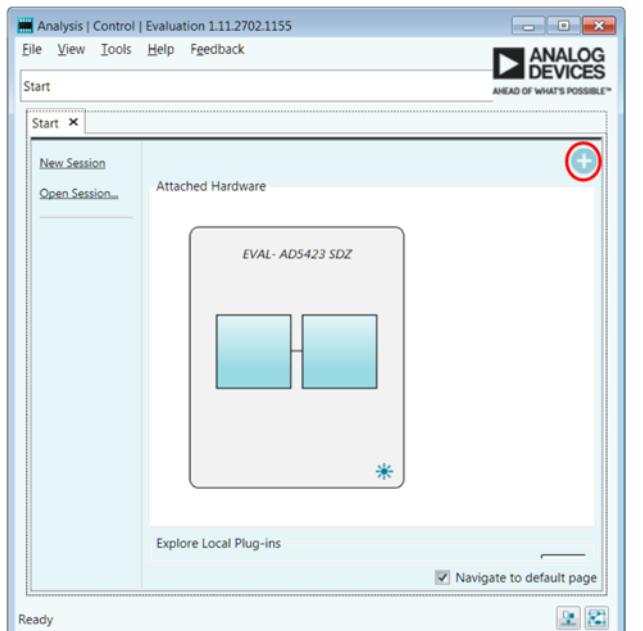
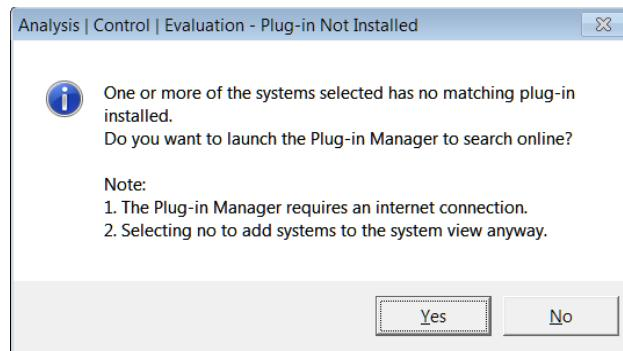
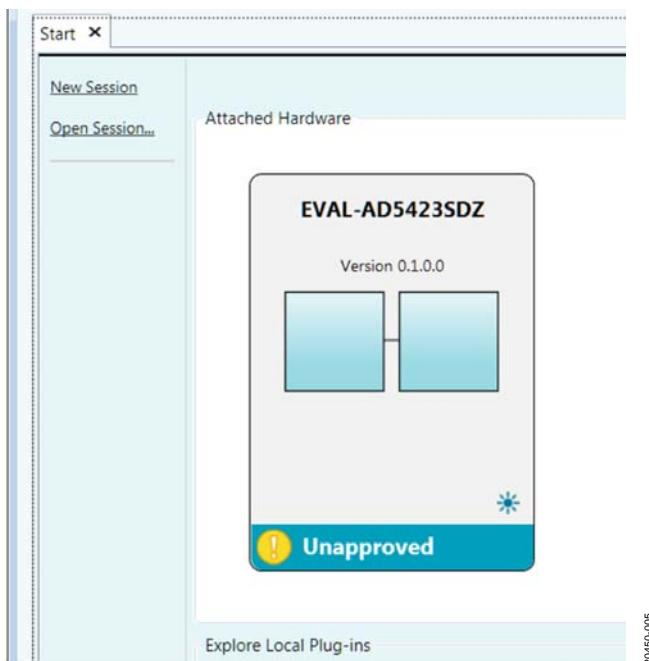

Figure 2. EVAL-AD5423SDZ Plugin Not Installed
Figure 3. Installing the Plugin Pop-Up Window
Figure 5. Attached Hardware Section with the EVAL-AD5423SDZ Plugin Connected
5. When setting up the evaluation board for the first time, it can be required to install the EVAL-AD5423SDZ plugin. If the plugin appears as shown in Figure 5, then proceed to Step 7. If the plugin appears as shown in Figure 2, click on the button circled in red and the pop-up window shown in Figure 3 appears. Click **Yes**.
7. Find and select the **Board.AD5423** plugin and click **Install Selected**. The EVAL-AD5423SDZ plugin is now installed and displays as shown in Figure 5.